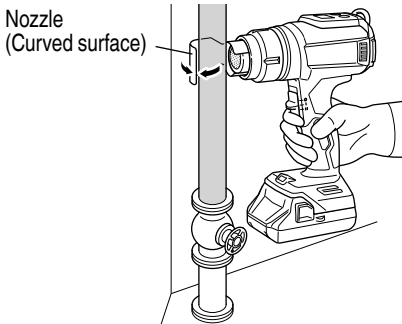

Fig. 17
5. Defrosting water pipes (Fig. 17)